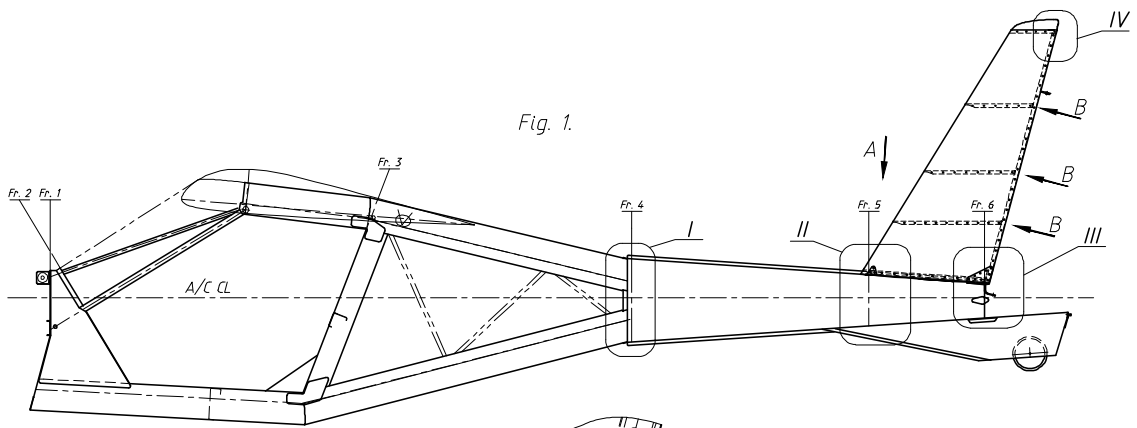

Fig. 1.
1. Inspect the tail boom for dents and cracks in the specified area (see fig. 1).
- 1.2. Drill out the rivets of fin attachment to the tail boom (No.11 – 6 pcs. see fig.1, 2, 3) with $\varnothing 4$ mm drill bit, and 8 rivets No.12 with $\varnothing 3$ mm drill bit. (Before drilling out the rivets beat out the rivets cores).
- 1.3. Drill out with $\varnothing 3$ mm drill bit the rivets of rib attachment to the fin spar (see fig. 1, 3, 4, 6, views C and B, No.13 – 2 pcs., No.14 – 6 pcs., No.15 – 3 pcs.).
- 1.4. Drill out with $\varnothing 3$ mm drill bit the rivets of skin attachment to the fin spar (see fig. 1, 3, 5 detailed views III and IV, No.16 – 6 pcs., No.17 – 36 pcs., No.18 – 10 pcs.).
- 2.1. Drill out the rivets of the tail boom frames (see fig. 1, 4, 9, 10, detailed views II and III, No.19 – 8 pcs. with $\varnothing 3$ mm drill bit and No.20 – 6 pcs. with $\varnothing 4$ mm drill bit.
- 2.4. Unclose the tail boom and insert a foam spacer of approx. 100 mm thickness for convenient access in the area of the Fr.5 (see fig.1).
- 3.1. Straighten the tail boom skin in the detailed view III (see fig.1).
- 5.2. Set rivets (see fig. 1, 2, 3, 4, 5, 6) No.11 – 6 pcs., 12 – 8 pcs., 13 – 2 pcs., 14 – 6 pcs., 15 – 3 pcs., 16 – 6 pcs., 17 – 36 pcs., 18 – 10 pcs.